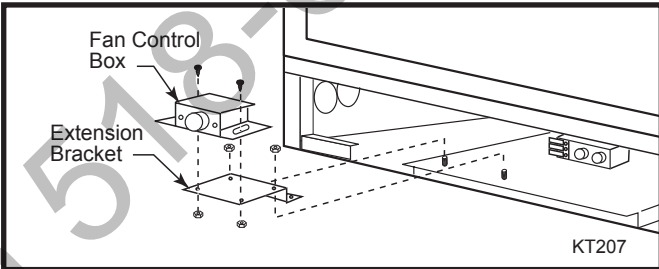

Fig. 32 Attach the control box to the bracket and install bracket into the cabinet.
- b. Attach the Fan Speed Control Box to the Bracket (Fig. 32) and install the Bracket into the Cabinet.